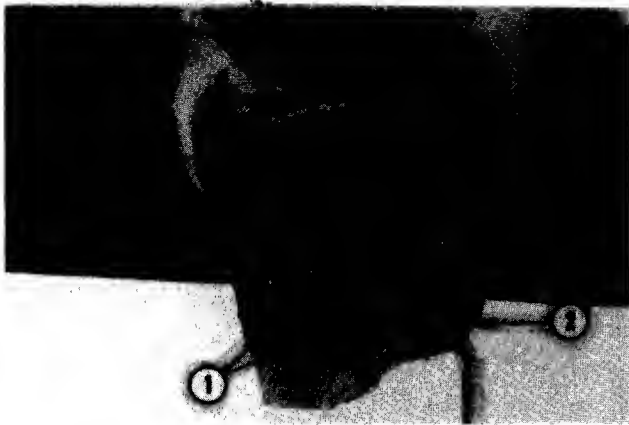

FIG. 4.4-PULLING TRANSAXLE
3. Block up transmission so that no pressure is in brake shaft with case side facing up. Fig. 4.4.
5. Lift case 1-1/2 to 2 inches above cover, tilt so case will clear shift rods, rotate case and remove from cover and gears. Fig. 4.4.
13. Work case around gears by tilting and rotating and install in place, Fig. 4.4 and secure with retaining bolts.